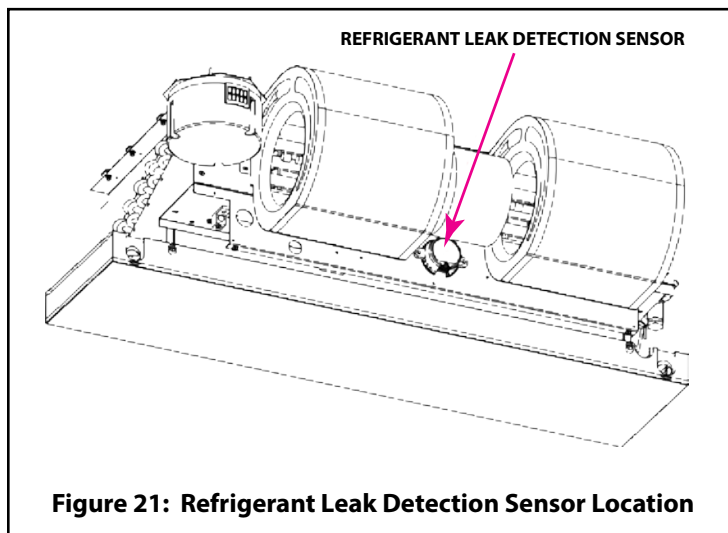

Figure 21: Refrigerant Leak Detection Sensor Location
2. Locate the black refrigerant sensor located below the blower motor (see Figure 21).